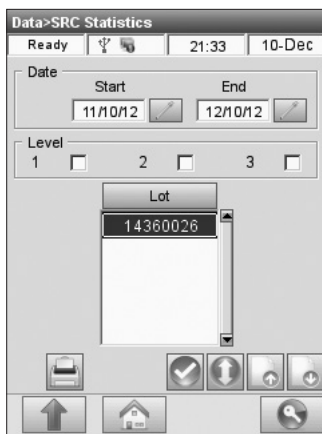

Fig. 6-9 SRC Statistics
3. In the **<Data>SRC Statistics>** screen (Fig. 6-9), press  to select a **<Start>** date and **<End>** date for the statistics report to be printed.
6. To print results for individual lots, highlight the desired lot (Fig. 6-9).